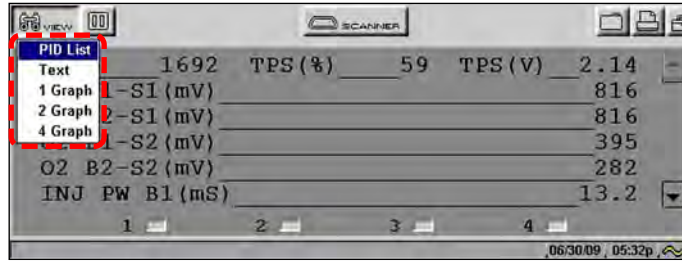

Figure 5-14 Sample View menu
1. Select the **View** button to open the drop-down menu (Figure 5-14).